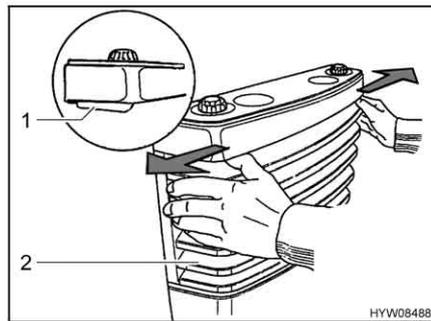

Fig. 137 Removing heater cover
- Remove heater cover (Fig. 137,2). To do this, press the two locking levers (Fig. 137,1) to the outside at the same time and tip the cover forwards.